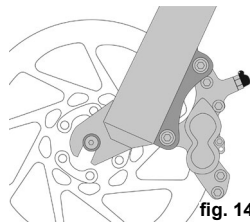
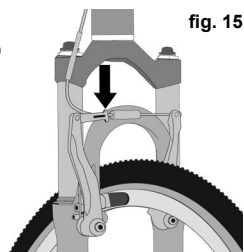

fig. 14
fig. 15
- (1) If your bike has rim brakes, disengage the brake's quick-release mechanism to increase the clearance between the tire and the brake pads (refer to **Page 26, Section 4: "Tech", subsection C: "Brakes", figs. 14 through 18**).
(2) If your bike has rim brakes, disengage the brake's quick-release mechanism to increase the clearance between the wheel rim and the brake pads (refer to **Page 26, Section 4: "Tech", subsection C: "Brakes", figs. 14 through 18**).
(3) On a derailleur gear system, pull the derailleur body back with your right hand.
3. Some bicycle brakes, such as disc brakes (fig. 14) and linear-pull brakes (fig. 15), are extremely powerful. Take extra care in becoming familiar with these brakes and exercise particular care when using them.
Most rim brakes have some form of quick-release mechanism to allow the brake pads to clear the tire when a wheel is removed or reinstalled. When the brake quick-release is in the open position, the brakes are inoperative. Make sure that you understand the way the brake quick-release works on your bike (see **figs. 15, 16, 17 & 18**) and check each time to make sure both brakes work correctly before you get on the bike.